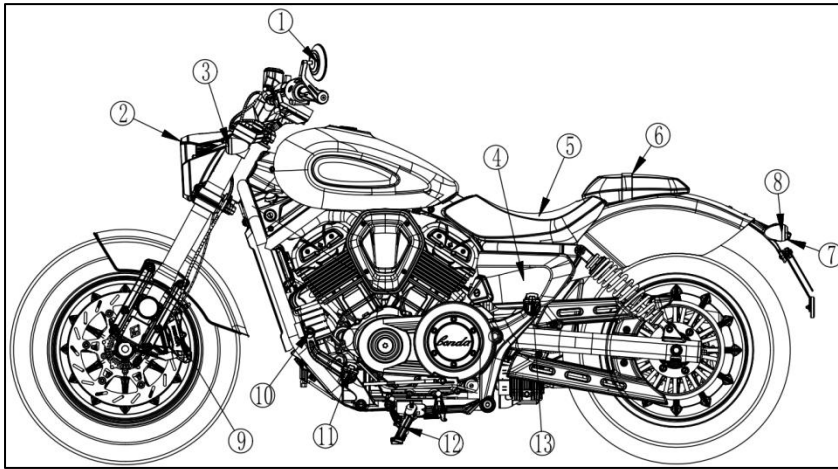
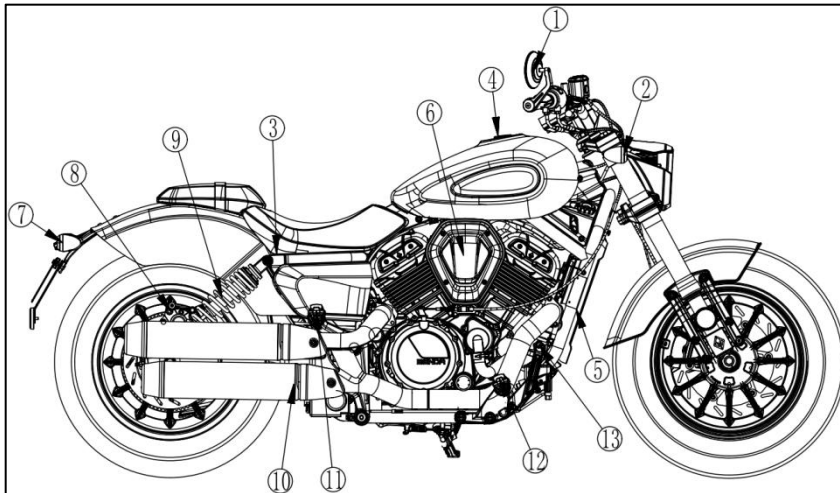
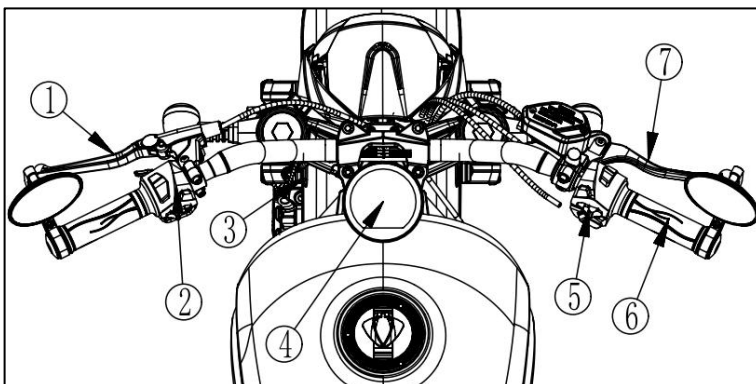

FIG1
FIG2
FIG3 Front car body
1.2 Number position (FIG 1)
- ①、 Vehicle frame number (VIN) : Front end of the right frame (right side of the front pipe);
- ②、 Nameplate: Front end of left frame (left side of front pipe);
- ③、 Engine number: directly above the right side of the engine box;
1、 (Fig1)
- ①Left rear mirror
- ②Front headlight
- ③Front left turn signal
- ④Battery (Battery box inside the protective panel)
- ⑤Front seat
- ⑥Rear seat
- ⑦Rear license plate lamp
- ⑧Rear left turn signal
- ⑨Front brake caliper
- ⑩Shift lever
- ⑪Front left foot pedal
- ⑫Side stand
- ⑬Rear left foot pedal
2、 (Fig2)
- ①Right rear mirror
- ②Front right turn signal
- ③Frame VIN code
- ④Fuel tank cap
- ⑤Vehicle nameplate
- ⑥Air filter
- ⑦Rear right turn signal
- ⑧Rear brake caliper
- ⑨Rear shock absorber
- ⑩Exhaust muffler
- ⑪Right rear foot pedal